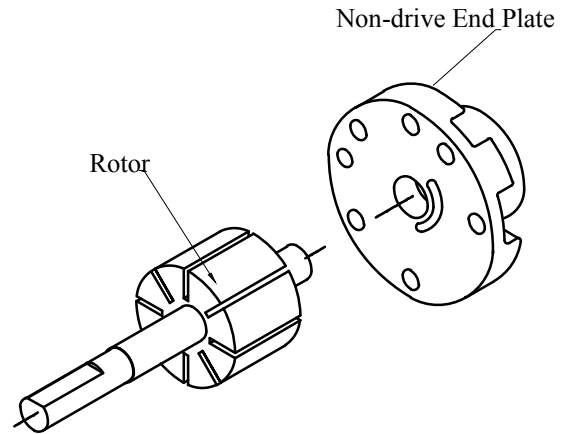

Fig. 4
7. Draw out the rotor and remove non-drive end plate. Refer to fig. 4.